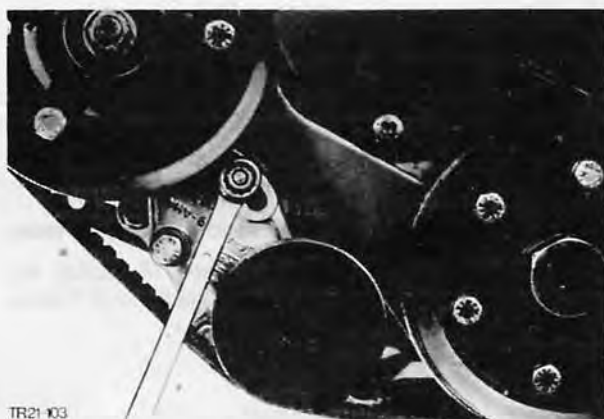

Fig. 44. Slacken vacuum V-belt tension roller
6. Slacken vacuum pump V-belt tension roller Fig. 44 and alternator V-belt adjuster, then remove both V-belts.